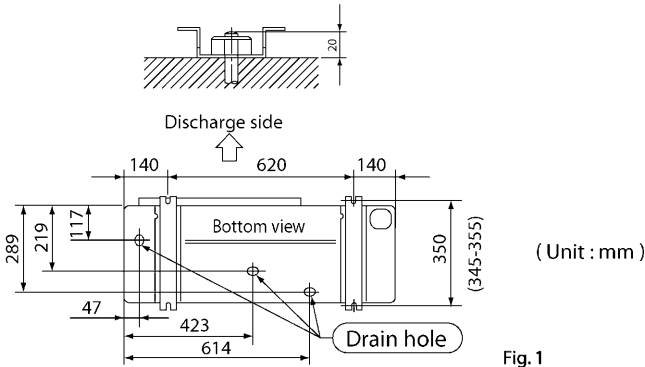

Fig. 1
- In accordance with the foundation drawing in Fig. 1, fix the unit securely by means of the foundation bolts (Prepare four sets of M12 foundation bolts, nuts and washers each which are available in the market.)